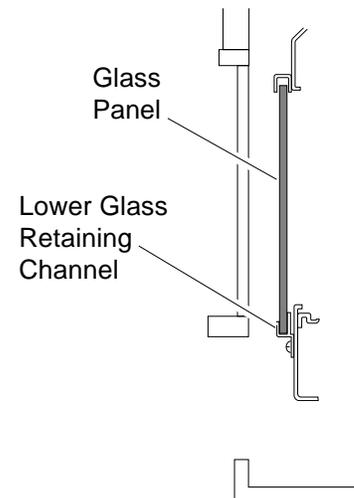

Figure 12 - Inserting Glass into Lower Retaining Channel
7. Lower glass into lower glass retaining channel (see Figure 12). Slide glass panel all the way to the left side.
7. With control knob depressed, push down and release ignitor button. This will light pilot. The pilot is attached to the front of burner. You can see pilot through front glass of heater (see Figure 12). If needed, keep pressing ignitor button until pilot lights.